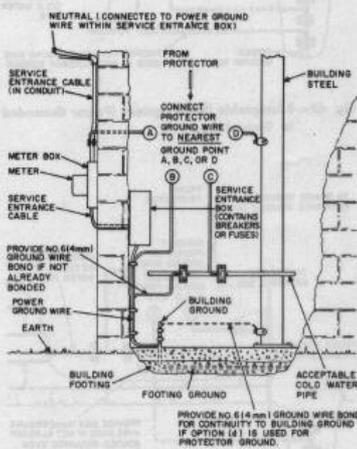

Fig. 46—Acceptable Water System or Building Ground (Power Service Grounded to Footing Ground)
- 6.05 Station protectors installed at locations where the power is grounded to a concrete encased electrode or to grounded building steel should be grounded as shown in Fig. 46 and 47.